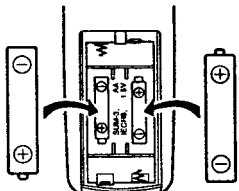

Fig. 2
- ② Install two size "AA" batteries into the battery compartment. (See Figure 2.)